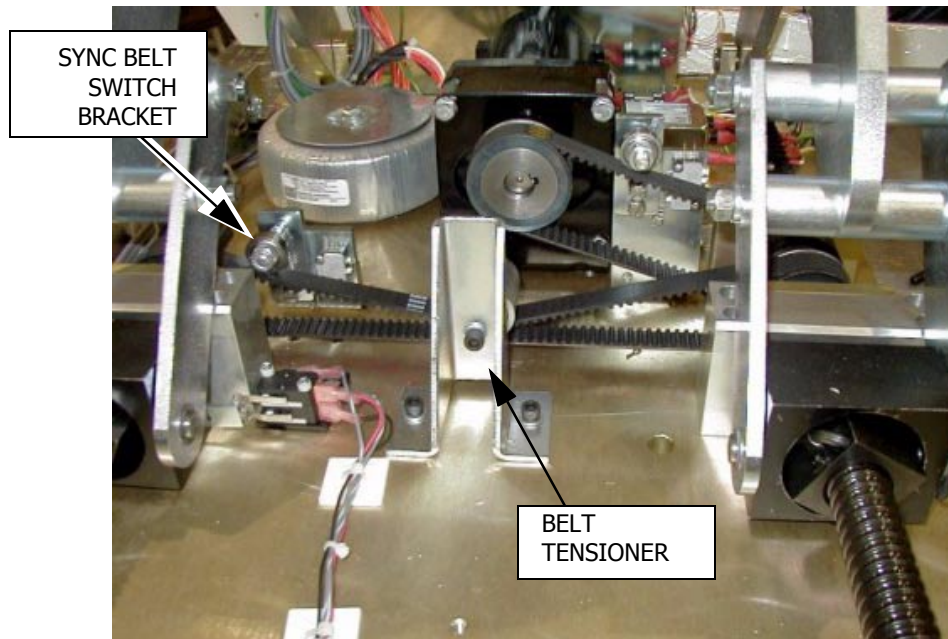

Figure 18. Location of Sync Belt Switch Bracket and Tensioner
7. Loosen nut on Belt Tensioner to create slack in belt (see Figure 18). If necessary, remove Belt Tensioner to achieve sufficient slack for belt removal.
8. Loosen two (2) 1/4-20 socket head cap screws securing Ball Screw Mounting Block at pulley end of Lead Screw to Base Plate (see Figure 18). Gently tap Block to remove it from Lead Screw.